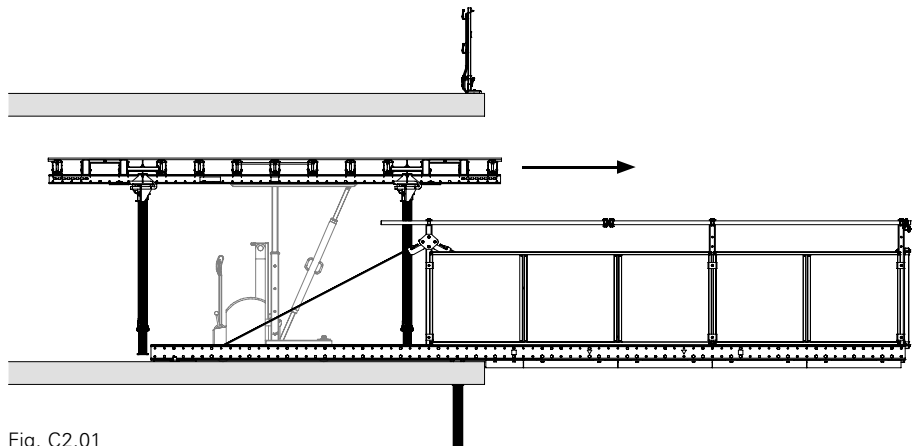

Fig. C2.01
1. Move slab table, e.g. with the lifting fork, and set down on the RCS MP 550. (Fig. C2.01)